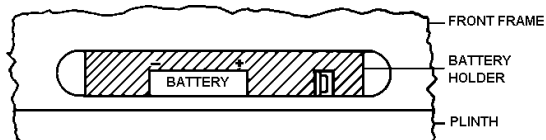

Fig.4
1. The battery is located on the left hand side of the front plinth and can be viewed through a slot in the bottom left hand corner of the front frame(Fig 4.)